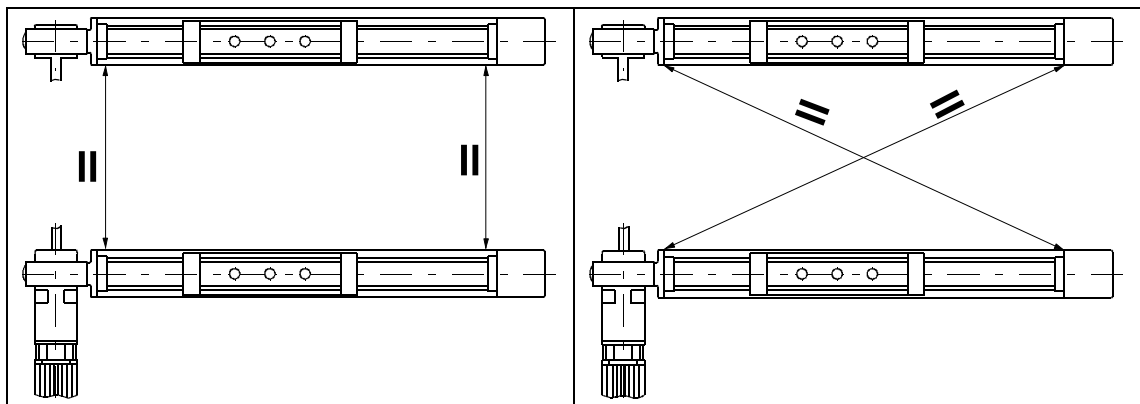

Figure 2: Aligning a double axle
5. measure the parallelism (tape measure) [Figure 2 left].
6. Measure both diagonals to check that it is square (tape measure) [Figure 2 right]. If needs be, correct the diagonal measurement by parallel movement of the 2nd axle.